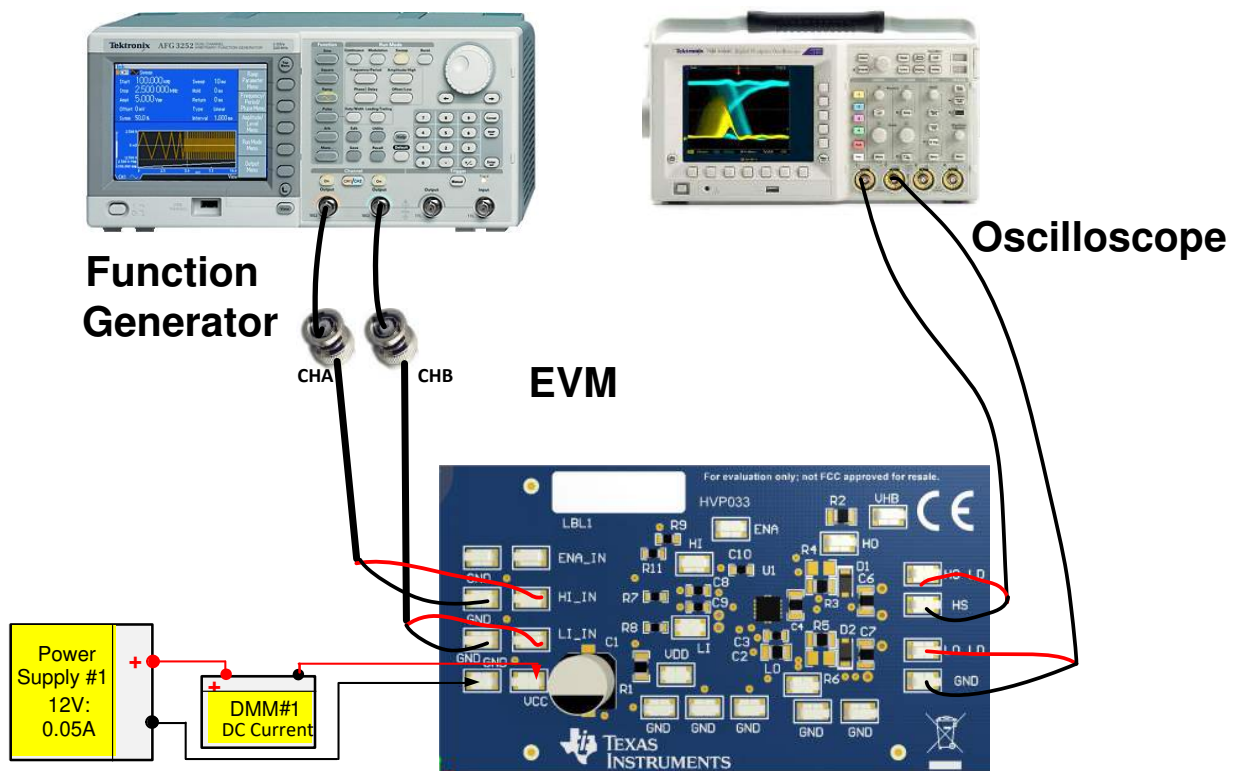

Figure 1. Bench Setup Diagram and Configuration
This procedure details how to configure the UCC27288EVM evaluation board. Within this test procedure, the following naming conventions are applied. See the UCC27288EVM *Bench Setup Diagram and Configuration*, Figure 1, for details.
Use the following connection procedure, refer to Figure 1.
1. Before beginning the power up test procedure, verify the connections with Figure 1.